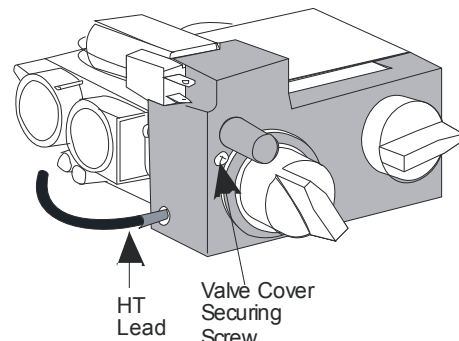

Figure 75
3. Remove the valve cover securing screw (see **Figure 75**).